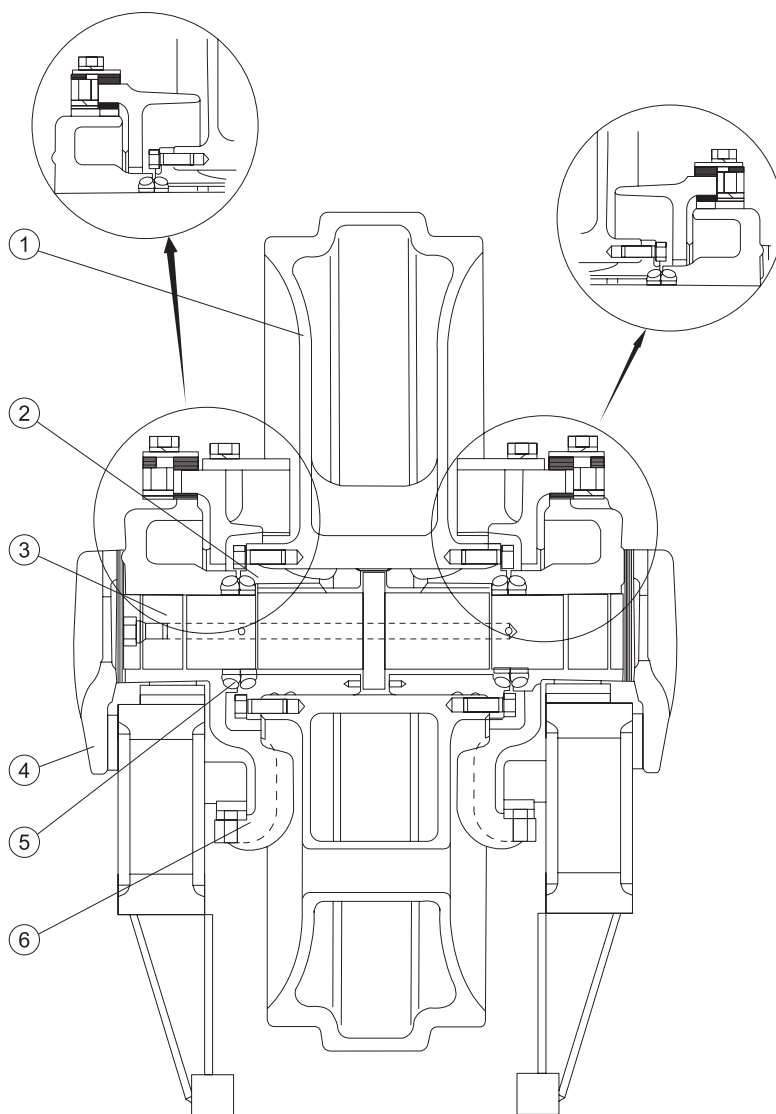

Figure 3-43
3.10.2 IDLER (SEE FIGURE 3-43)